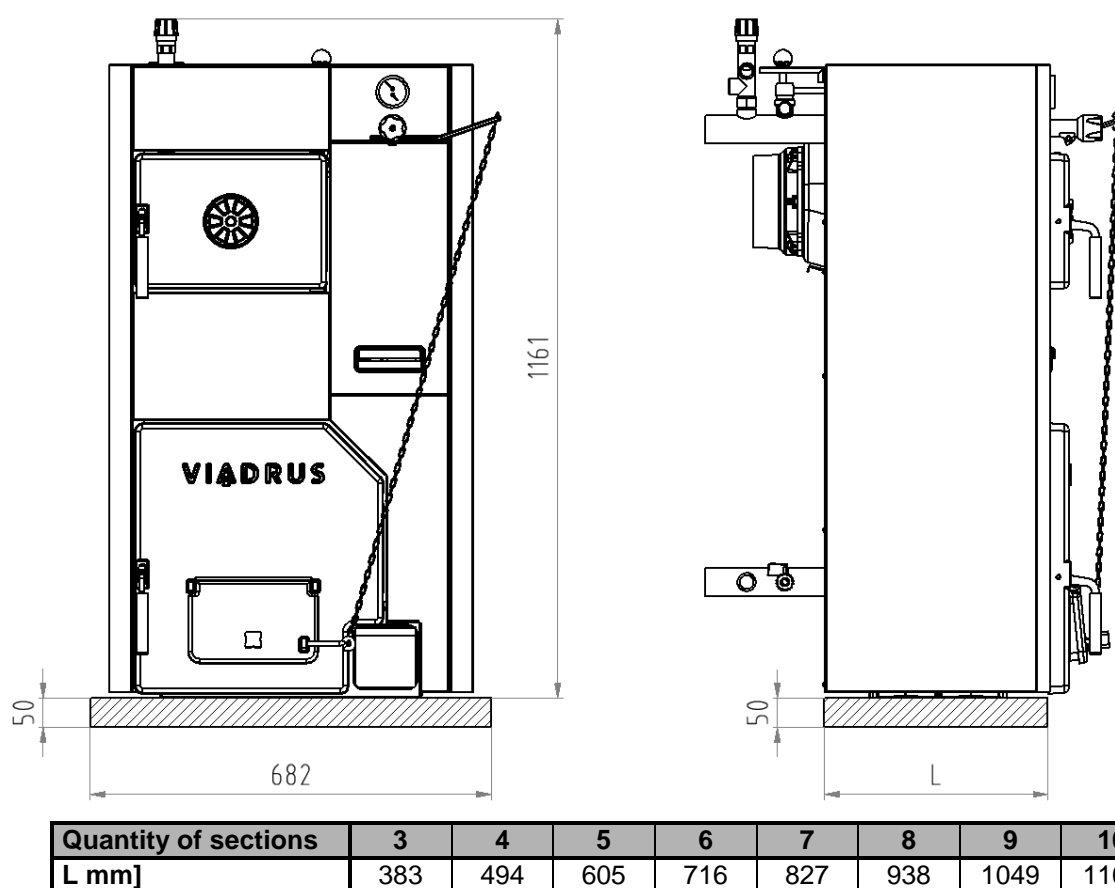

Fig. no. 5 Boiler base dimensions
1. The boiler can be installed on a fire-proof floor (Fig. no. 5):